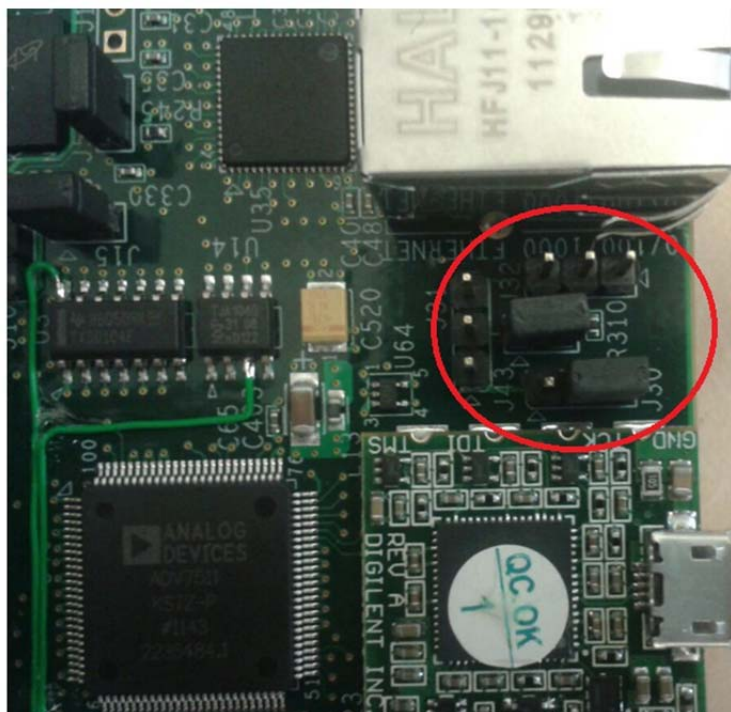

Figure 6-4: Change Jumpers J30 and J43
4. Change Ethernet Jumper J30 and J43 as shown in Figure 6-4.